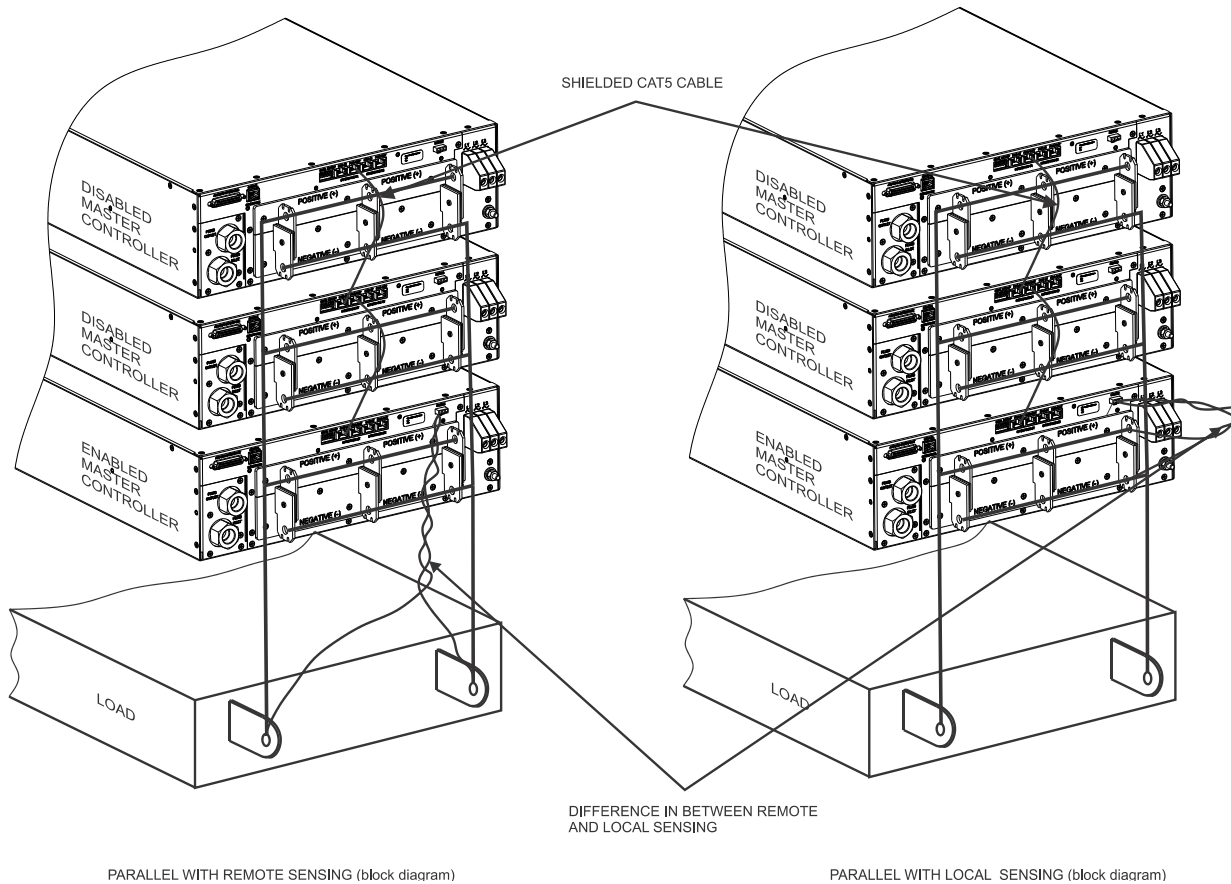

Figure 3-21. Parallel and Remote/Local Sense Connections
In order to connect up to ten power supplies in parallel, use a daisy-chain wiring configuration as follows (refer to Figure 3-21):
7. Referring to Figure 3-21, connect twisted pair cables as follows: